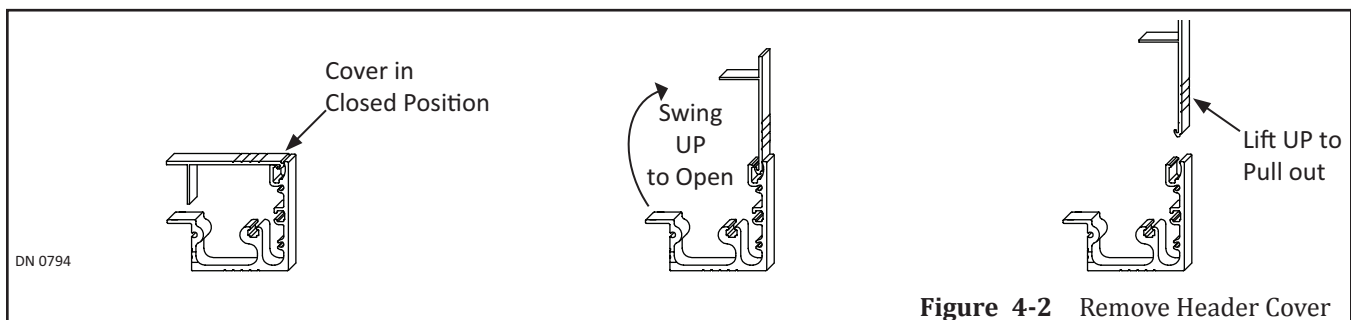

Figure 4-2 Remove Header Cover
4. Go to the bottom of Header, remove (2) #8-32 x 5/8" phillips head screws used to secure the Cover to Header. Save screws for reinstallation.
5. Remove the Cover by lifting it up and then pulling it out. Please see Figure 4-2.